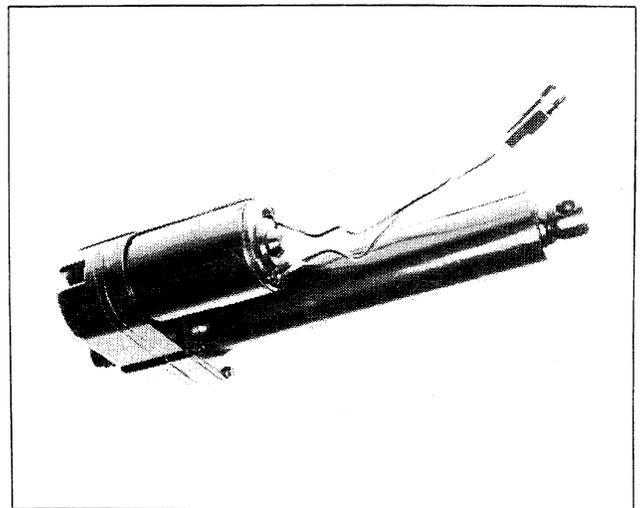

FIGURE 2-8: Linear Actuator
3. Connect a wire from the positive terminal of a 12 volt battery to linear actuator red lead wire and a wire from negative battery terminal to actuator yellow lead wire with a 15 amp circuit breaker connected in series. Linear actuator should extend or actuator is faulty and must be repaired or replaced (Figure 2-8).